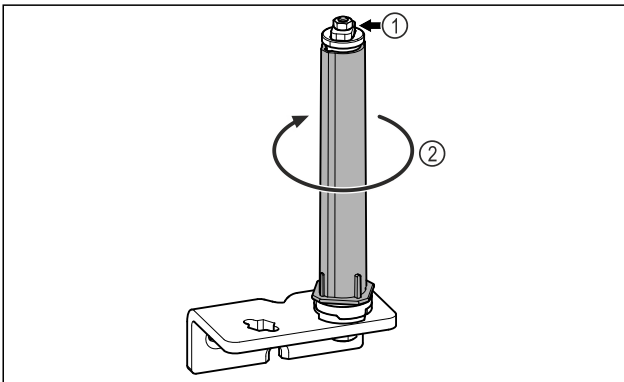

Fig. 23
▶ Do not disassemble the door locking system Fig. 23 (1).
▶ Turn the locking system Fig. 23 (2) until it clicks.